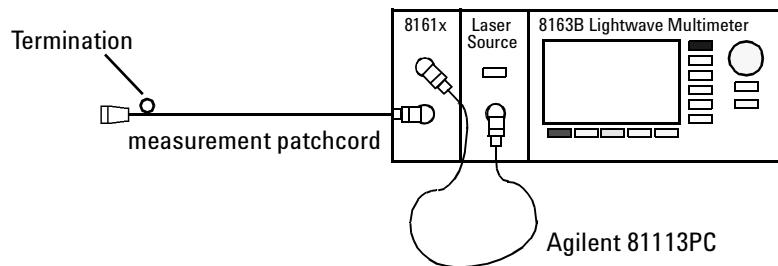

Figure 104 Measuring the Termination Parameter - External Source
- 1 Making sure all the connectors are clean, set up the instrument as shown in Figure 104 if you are using an External Source,**